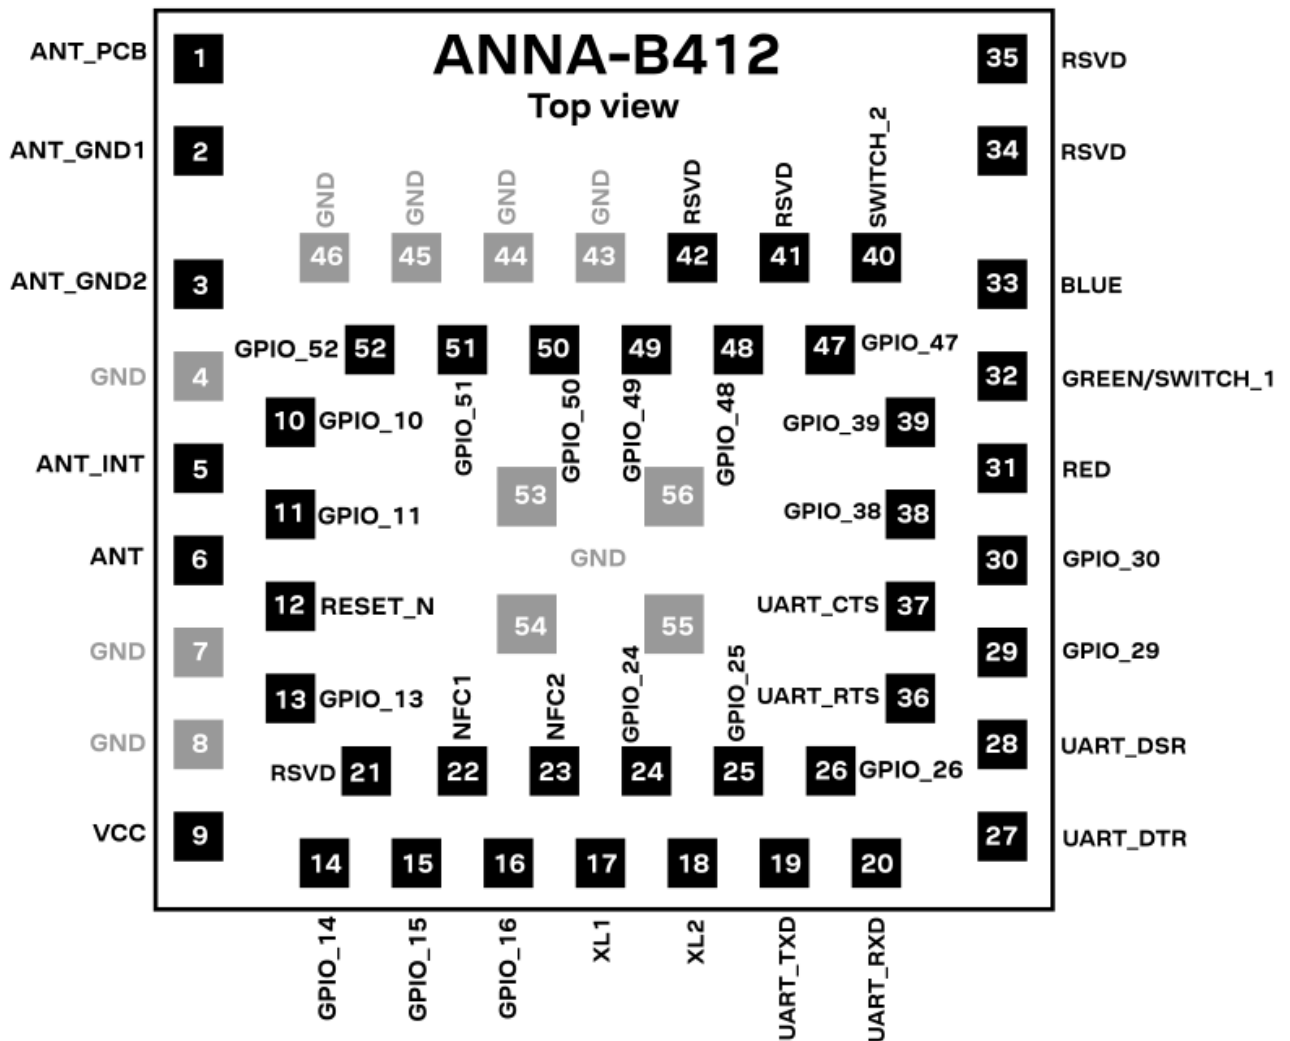

Figure 3: ANNA-B412 pin assignment (top view)
Figure 3 shows the pinout and pin configuration of ANNA-B412, where:
- **GND** pins are shown in grey in Figure 3.